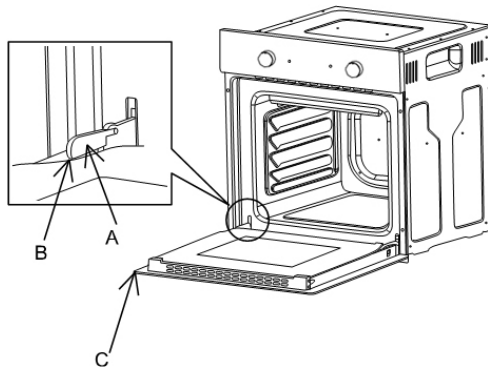

FIG.1
Removing the door from the oven (Fig. 1)
- Remember to turn the two moving links "B" used to engage the two hinges before closing the door.(Fig.1)